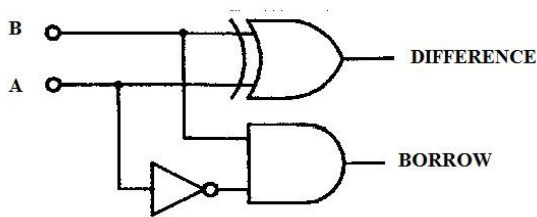

Figure 7.1 (a)
**7.1** Figure 7.1(a) shows a half-subtractor circuit that implements a half-subtractor operation described by Table 7.1(a) Make the circuit connection on block e to make it functions as half-subtractor.